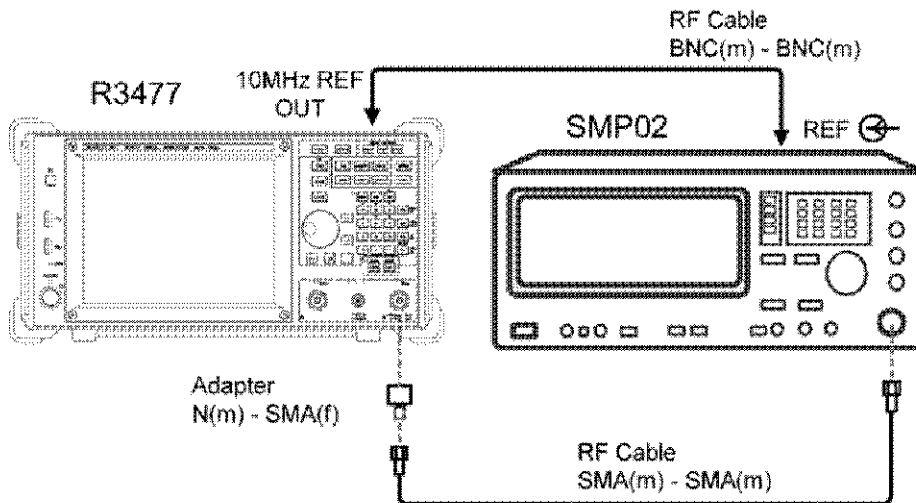

Figure 2-8 Resolution Bandwidth Accuracy and Selectivity Test
1. Connect the instruments as shown in Figure 2-8.